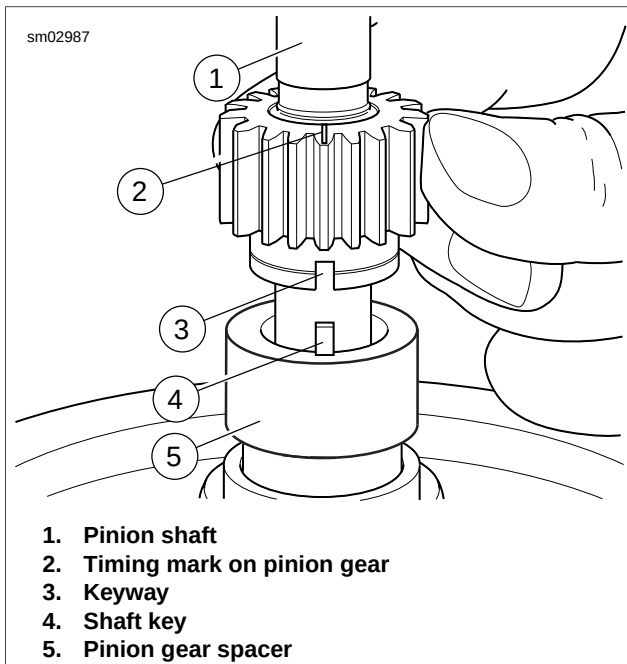

Figure 3-113. Aligning Pinion Gear
1. See Figure 3-113. Install pinion gear spacer and pinion gear on pinion shaft.